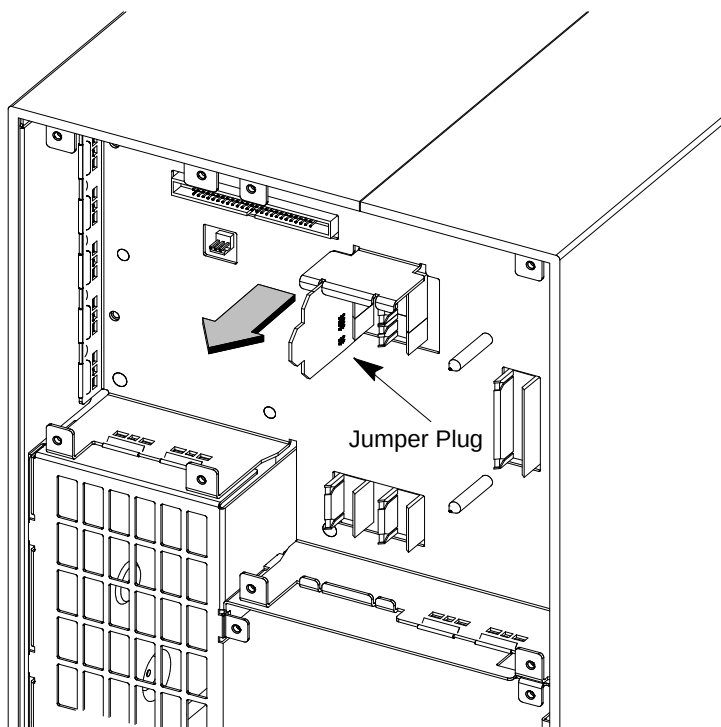

Figure 13. Backplane Jumper plug removal
1. Remove the Backplane Jumper Assembly as shown in figure 13.